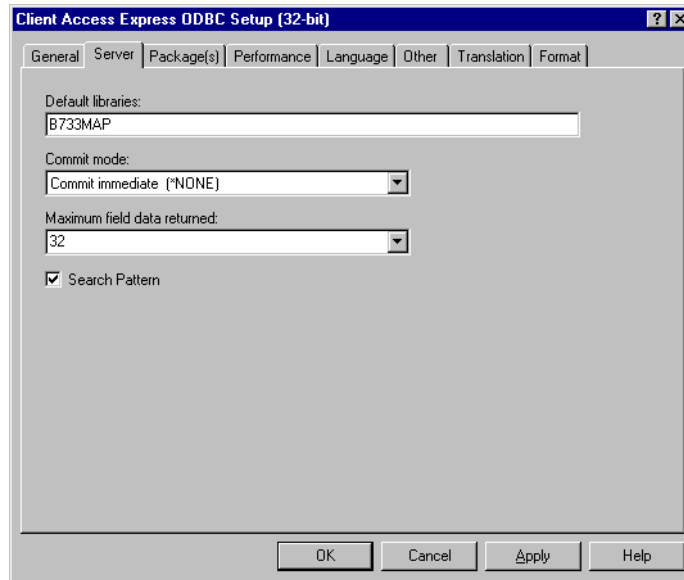

Figure 67. Client Access Express ODBC Setup (32-bit) (Part 2 of 6)
6. Type B733MAP for Default Libraries as shown in Figure 67.
7. Type `SYSB733` for Default Libraries. Otherwise, the information should appear the same as shown in Figure 67 on page 198.
25. Type `OLB733` for Default Libraries. Otherwise, the information should appear the same as shown in Figure 67 on page 198.
43. Type `DDB733` for Default Libraries. Otherwise, the information should appear the same as shown in Figure 67 on page 198.